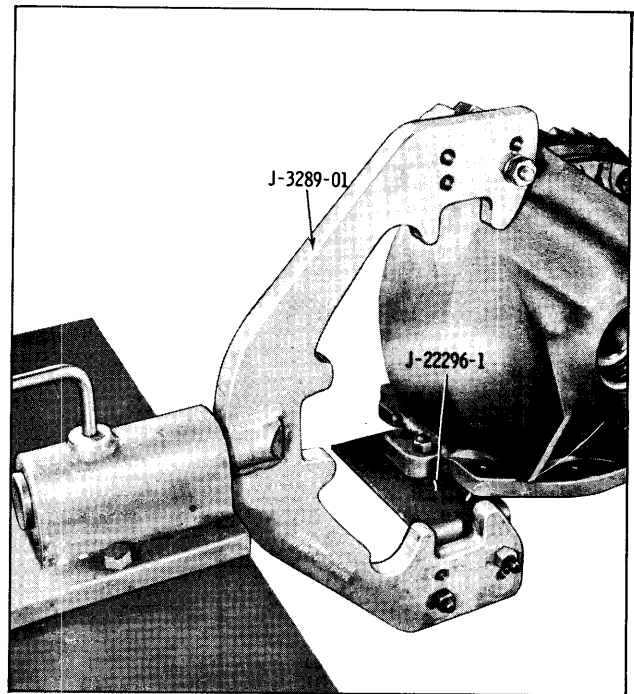

Fig. 3EC-18 Final Drive In Holding Fixture
9. Rotate carrier so that the pinion is up. Check pinion bearing pre-load as shown in Fig. 3EC-20A. Record the pinion bearing pre-load.
10. Remove the bearing housing bolts. Remove the drive pinion and housing as shown in Fig. 3EC-22. Remove housing from drive pinion. Remove O ring seal from bearing housing.